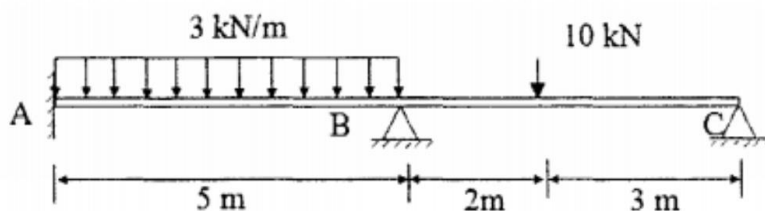

Figure 3
- 4 Analyze the continuous beam shown in figure 3 using slope deflection method and draw shear force and bending moment diagrams.